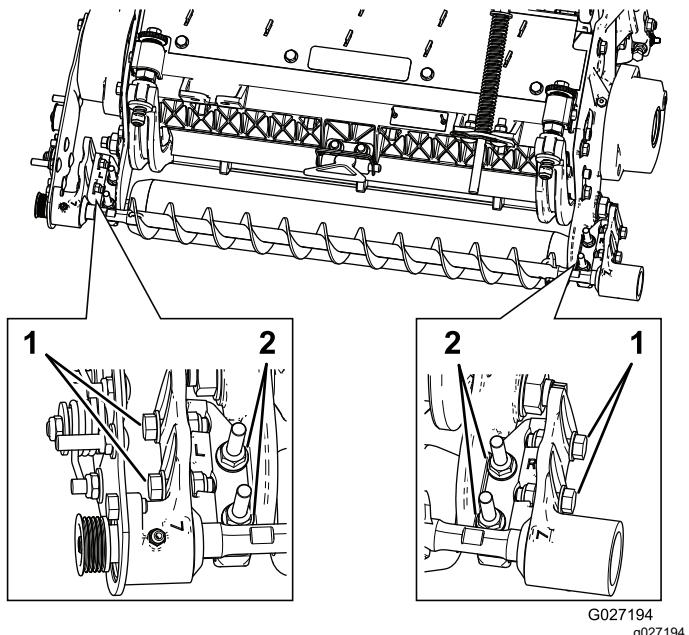

Figure 13
- Loosen the 2 flange locknuts securing the roller-brush mounting bracket to the cutting-unit side plate (Figure 13).
- Rotate the roller-brush bearing housing until the brush plate is parallel to the cutting-unit side plate (Figure 13).
- Tighten the 2 flange locknuts securing the roller-brush mounting bracket to the cutting-unit side plate (Figure 13).
- Loosen the 2 bolts securing each roller-brush bearing housing to the roller-brush mounting bracket (Figure 13).